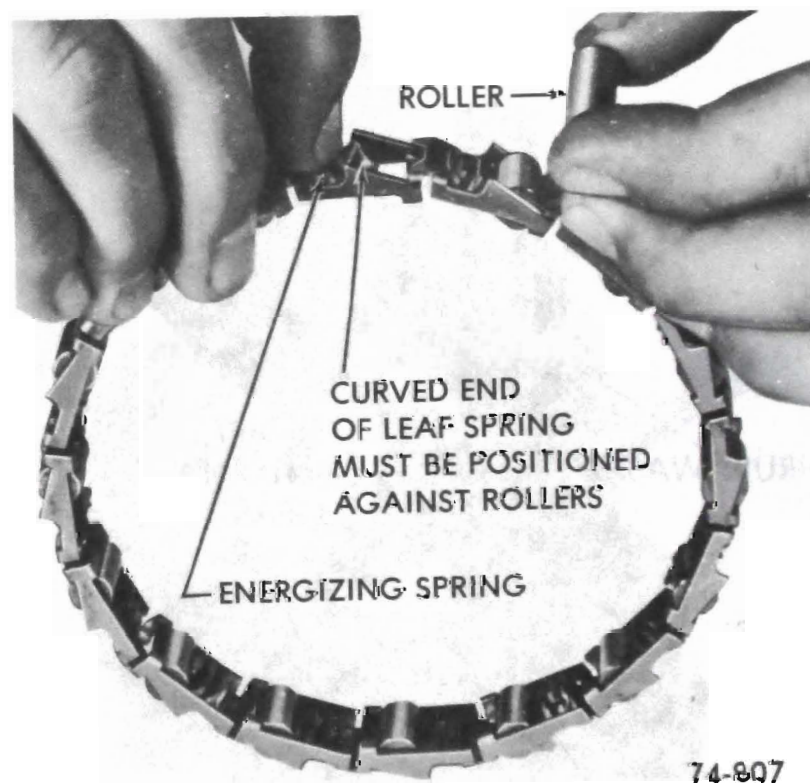

Figure 76-138
18. Install rollers in roller clutch cage, by compressing energizing spring with forefinger and inserting roller from outer side. See Figure 76-138.